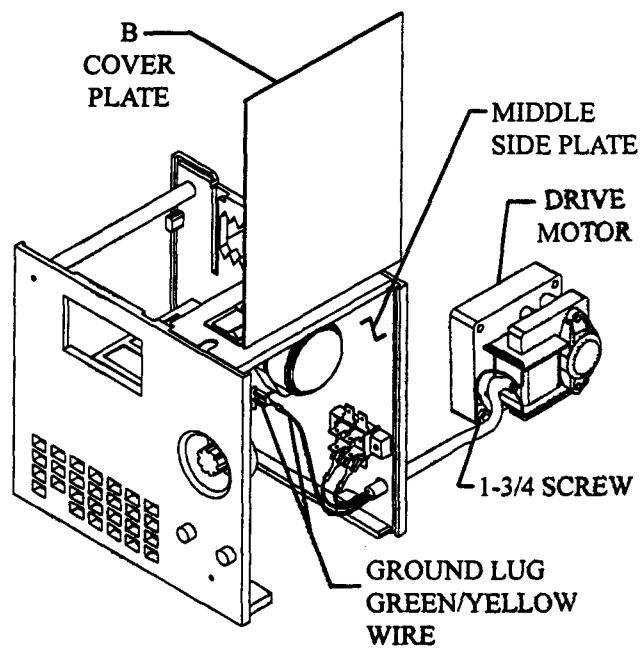

FIG. 2
3. Trace wires from motor to terminal block and grounding lug as shown in Fig. 2, and disconnect at terminals.
5. Route the wires from the motor through the middle side plate and reconnect to the terminal block and ground lug as shown in Fig. 2.